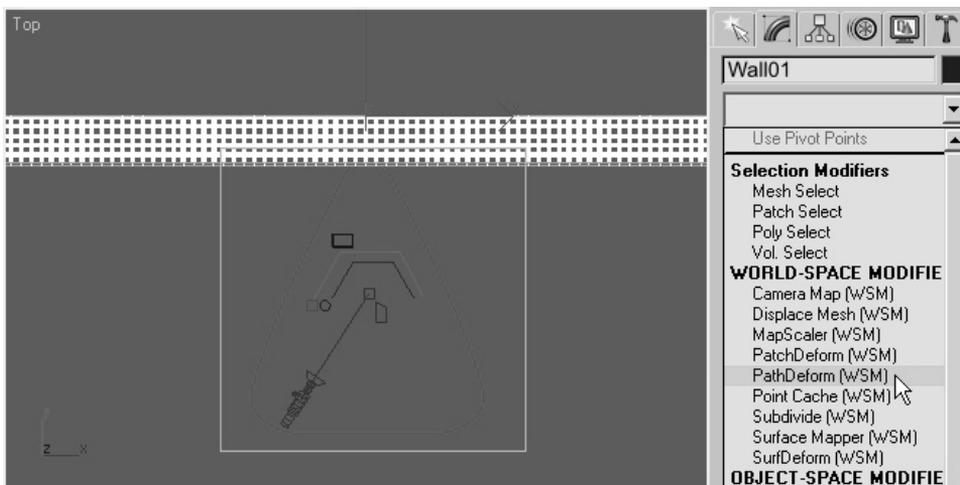

FIGURE 9.7 Select *Wall01* and apply the *PathDeform (WSM)* *World-space* modifier.
- Now, deform the bent wall around the path. With *Wall01* selected, go to *Modify* panel, *Modifier List*, and choose the *PathDeform (WSM)* modifier in the *World-Space* modifiers list (see Figure 9.7).